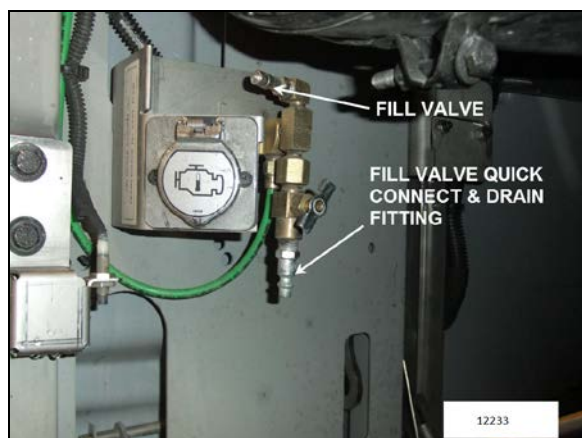

FIGURE 6: REAR VALVE LOCATION (TYPICAL)
The rear valve is located in the engine compartment and is accessible from engine compartment R.H. side door (Figure 6).
<p>Accessory air filter element</p> <p>Replace the accessory air filter element at the intervals specified by the Lubrication And Servicing Schedule in Section 24: LUBRICATION & SERVICING or whenever differential pressure exceeds 15 psi (105 kPa) between filter inlet and outlet ports. Check condition of all three O-rings for damage. Replace when necessary (Figure 6).</p>
The air dryer and wet tank may be purged simultaneously for maintenance purposes using the drain cock on the emergency air system fill valve located in the engine compartment and accessible through the engine compartment R.H. side door (Figure 6).
1. Release air dryer pressure by opening the air dryer drain valve (Figure 6).